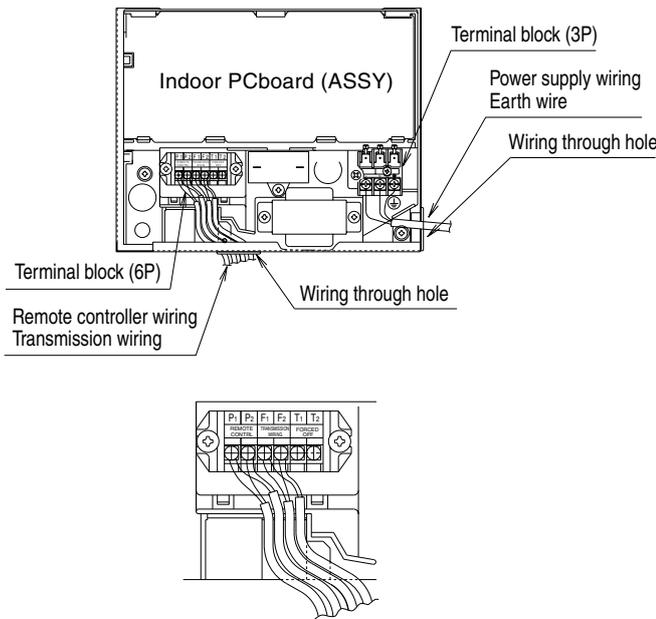

Fig. 18
**[ Connecting electrical wiring, remote controller wiring, and transmission wiring ] (Refer to Fig. 18)**